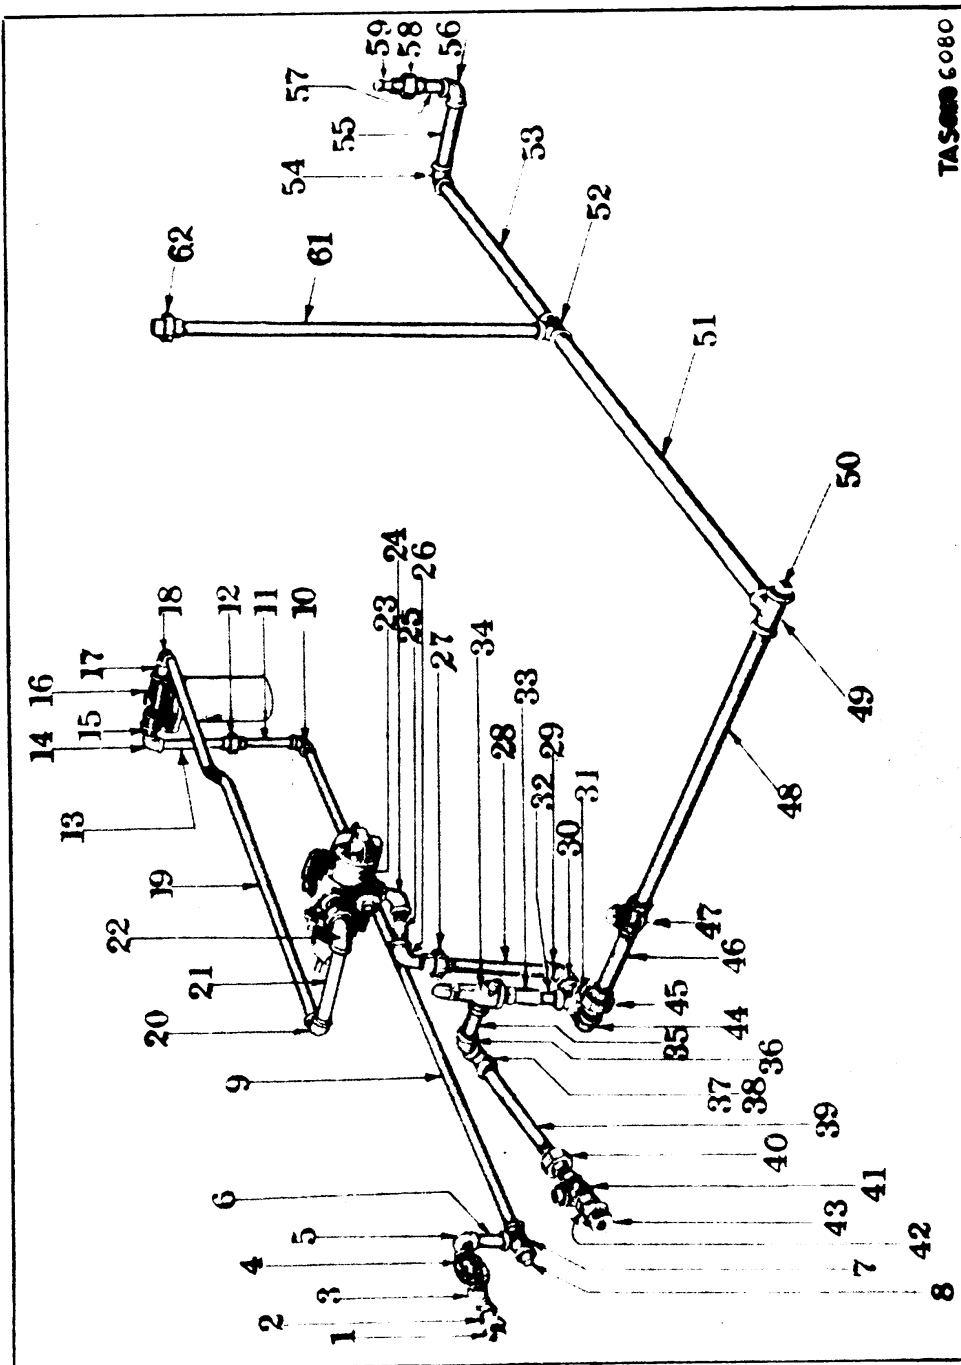

Fig. 80. Pipe Fittings on Water Suction, Discharge, Accumulator Extension, and Return Lines.
nearest pump. (See fig. 80.)
| 1. Unscrew 1/2" union at base of accumulator, loosen and remove 1/2" close nipple holding accumulator to pipe. (See fig. 80.) | 1. Pipe wrenches. |
2. Disconnect discharge line at 1/2" M. & F. union on pump side of valve, and twist loose line carrying valve at 1/2" tee on accumulator side of valve. (See fig. 80.)